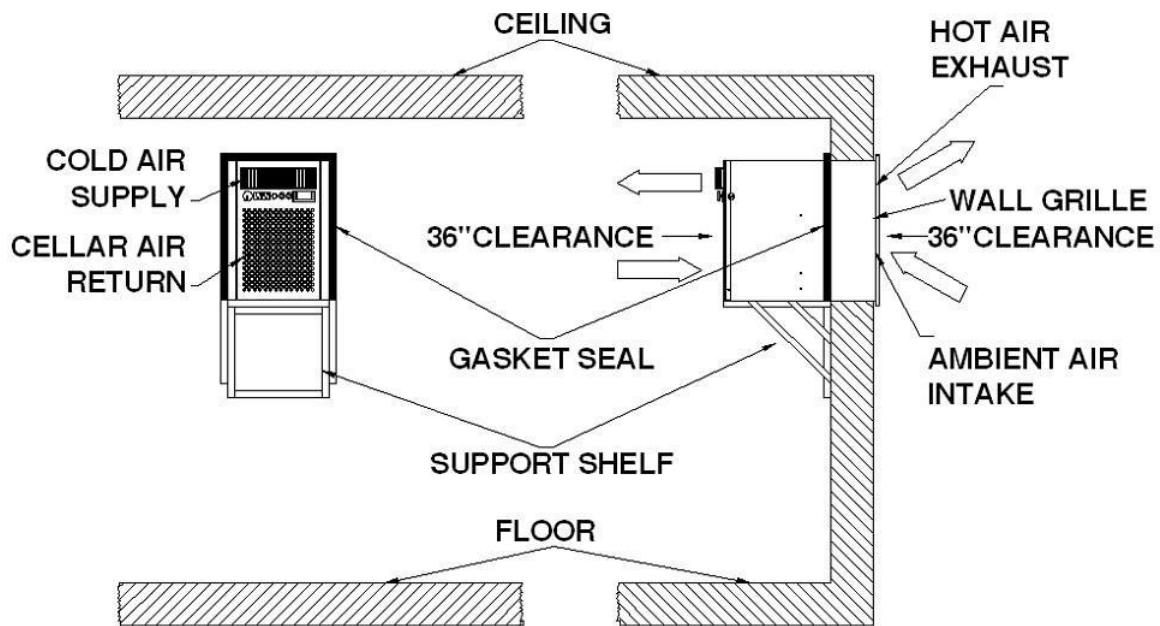

Fig. 4.2 Flush to the outside of wall with wall grille
2. Standard through-wall installation (Fig 4.2, 4.3, 4.4 & 4.5)